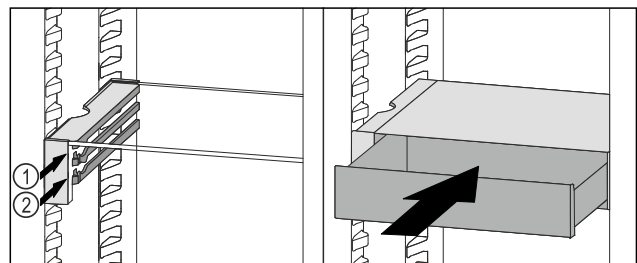

Fig. 168
- ▶ Place the VarioSafe drawer behind the stoppers on desired rib Fig. 168 (1) or Fig. 168 (2).